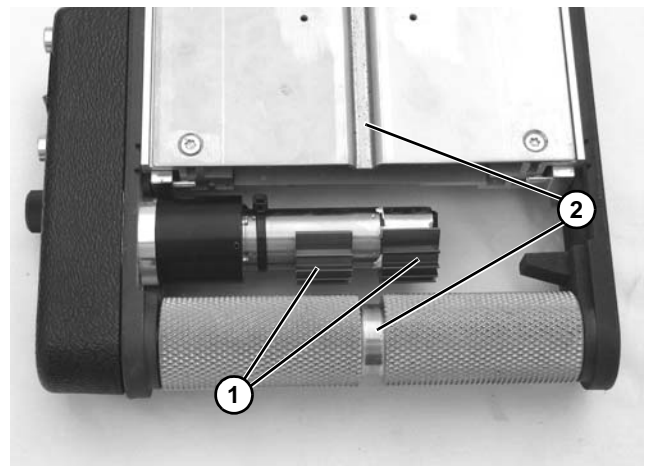

**Figure 76**
11. Add heat sink compound to heat sinks (**Figure 76, item 1**) before reinstalling to motor.